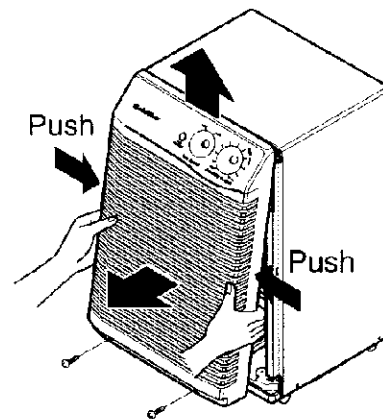

Figure 6
2. While pressing in on both sides of front grille, pull the grille out from the bottom and upward. (See Figure 6.)